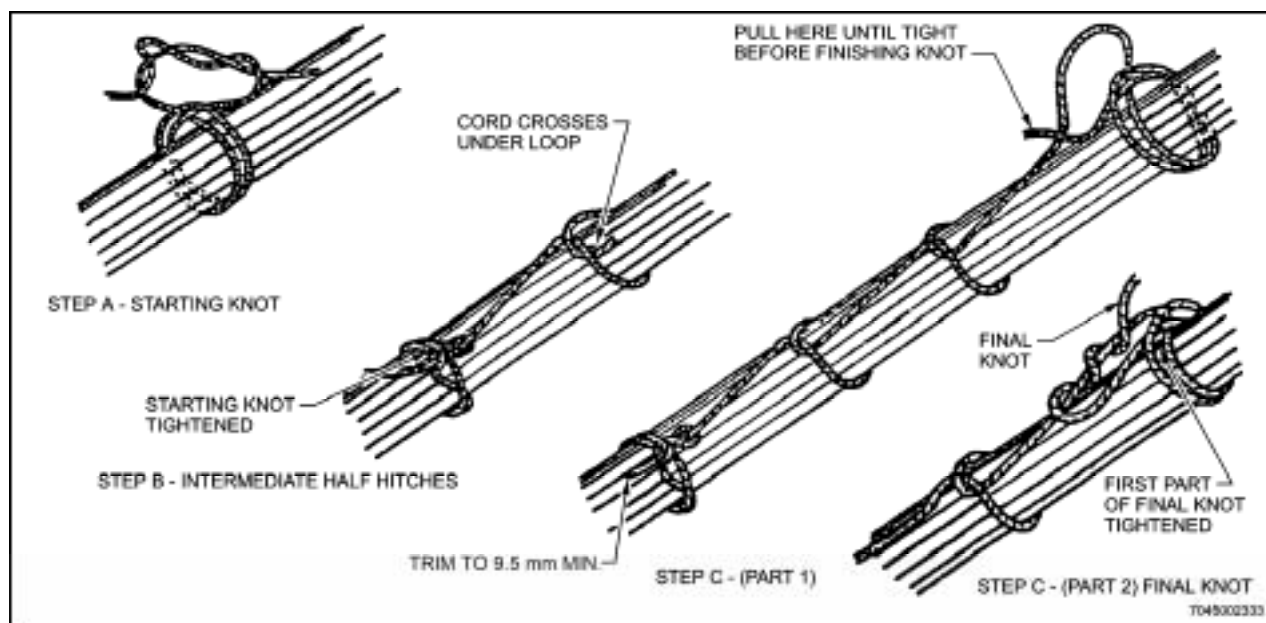

Figure 8-1 Single Cord Lacing
13. Lace a wire group or bundle with a single cord as follows (see Figure 8-1):